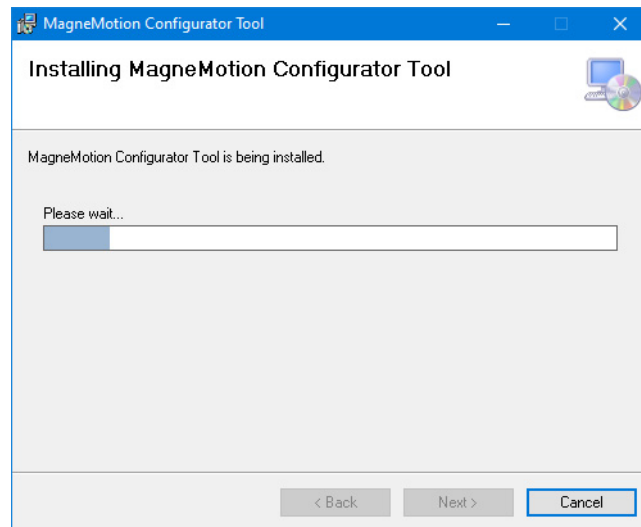

Figure 2-4: MagneMotion Configurator Tool Installation Progress
*The **MagneMotion Configurator Tool** setup wizard installs the software, see Figure 2-4 and places an Icon for access on the desktop, see Figure 2-6.*